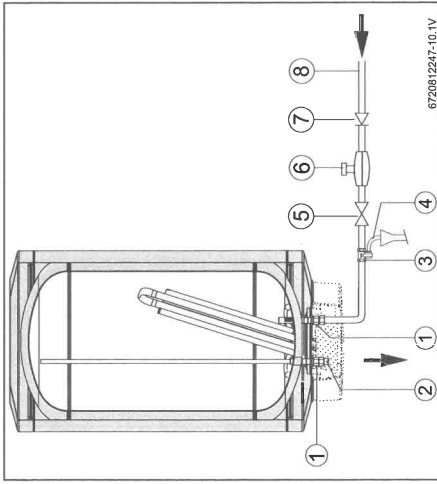

Fig. 10 Water connection
- ▶ Turn off the water cut off valve (→ Fig. 10).
In order to avoid problems caused by sudden pressure changes, we recommend the installation of a non return valve at the appliance (Fig. 10, [7]).
- ▶ Install a safety valve at the water inlet of the appliance (Fig. 10).
- ▶ Install a reducing valve (Fig. 10).